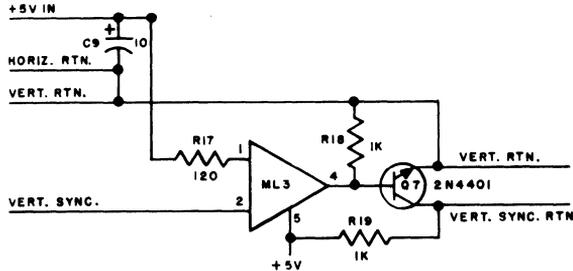

Fig. 5—Vertical Channel Signals
2.08 The vertical synchronization channel signals (20 ma current loop) to the cathode (pin 2) of optical isolator ML3 (Fig. 5). The controller +5 V supply is applied to the anode (pin 1) of ML3 through resistor R17. The output of isolator ML3 coupled to the base of transistor Q7 allows a TTL signal of sufficient power to drive the remote KD display monitor.